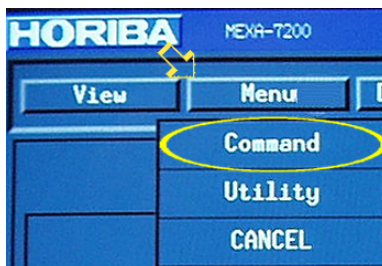

Figure 21
- 126 On the display setup portion of the screen, click on the “Menu” button. See the arrow in Figure 21. Click on “Command.” See the circle in Figure 21.